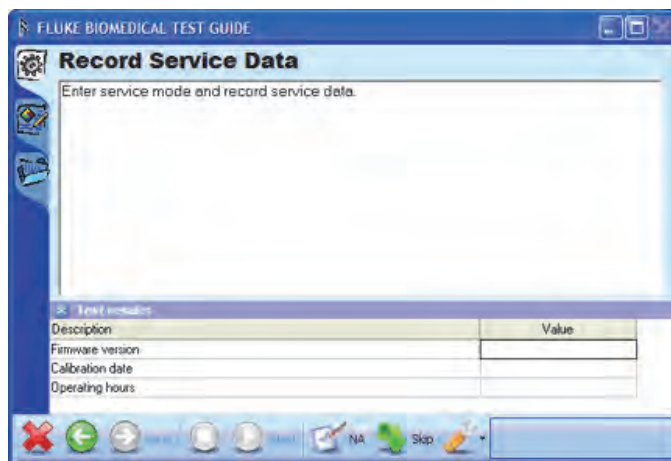

Figure 3-47. Preview of General List
13. Click the **Abort** button (✖) to return to the test template. When asked if you want to abort the test template, you must click the **Yes** button. The Test Guide for the numerical list will be displayed as shown in Figure 3-47.